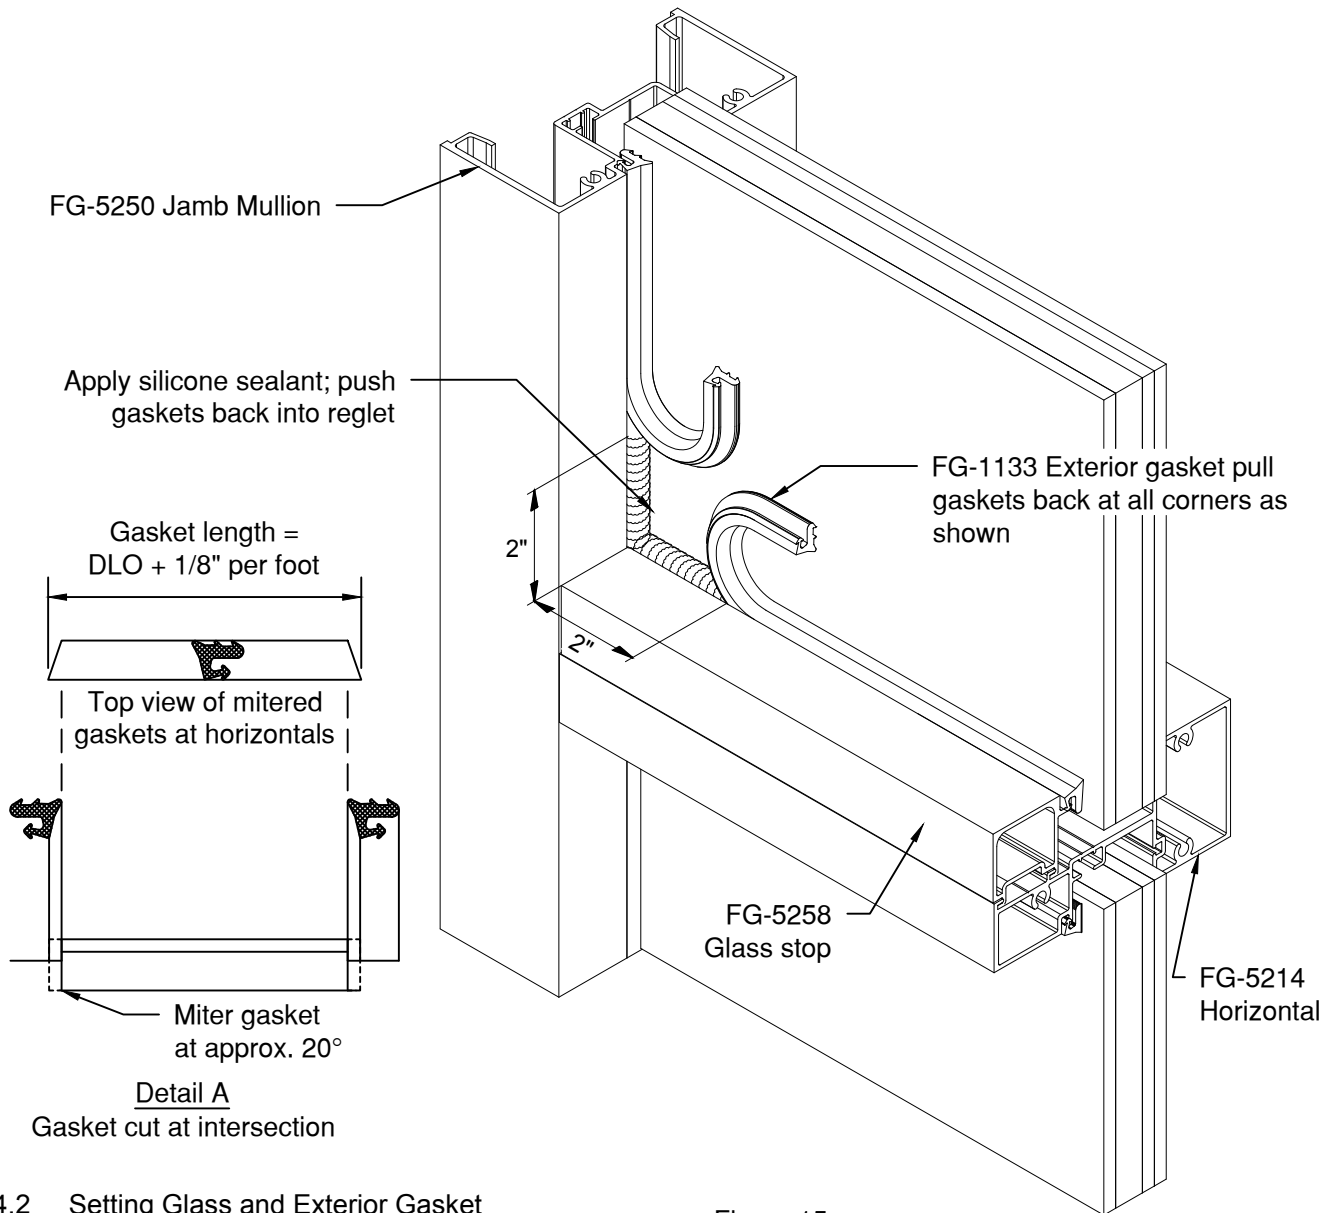
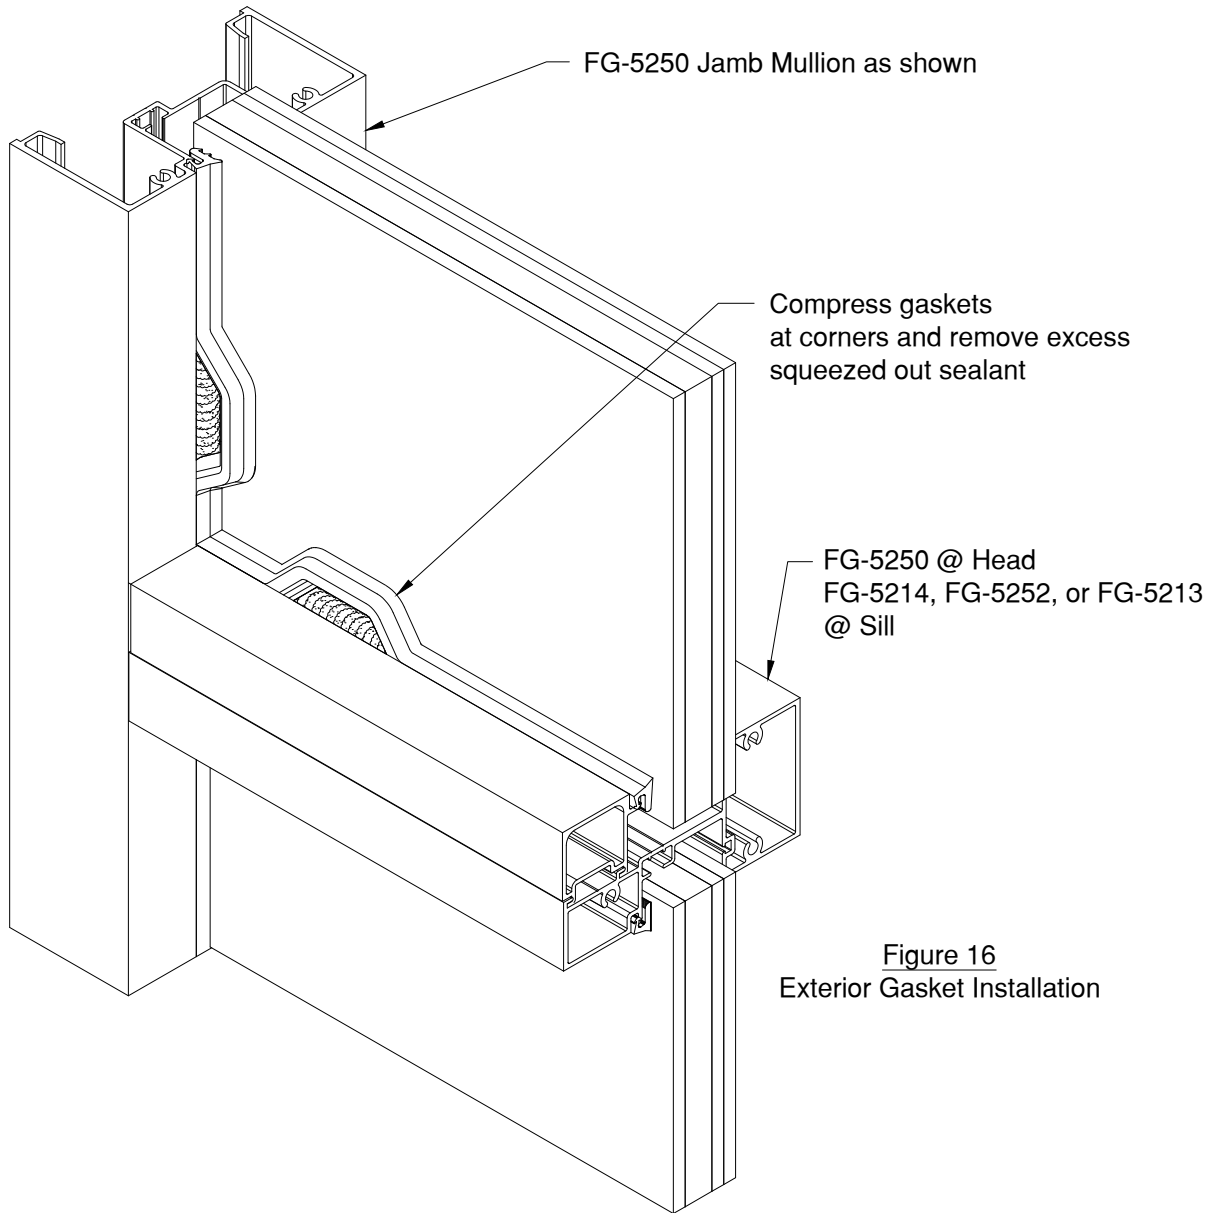

Figure 15
Figure 16
- 4.2.4 Cut gaskets a minimum of 1/8" per foot longer than daylight opening to provide adequate compression as shown at Figure 15 Detail A.
- 4.2.5 After gaskets are pressed in place, pull gasket from pocket as shown in Figure 15 above. Clean glass and gaskets a minimum of 2" from each end with isopropyl alcohol. Apply sealant and push gaskets into reglet. See Figure 16 on Page 16